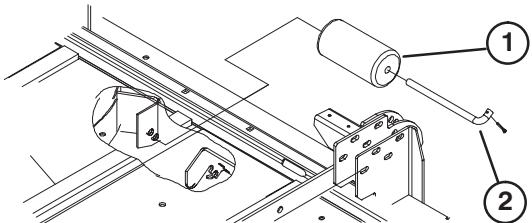

Figure 12
1. Remove the cotter pin securing the roller shafts to the brackets on the underside of the deck (Fig. 12).